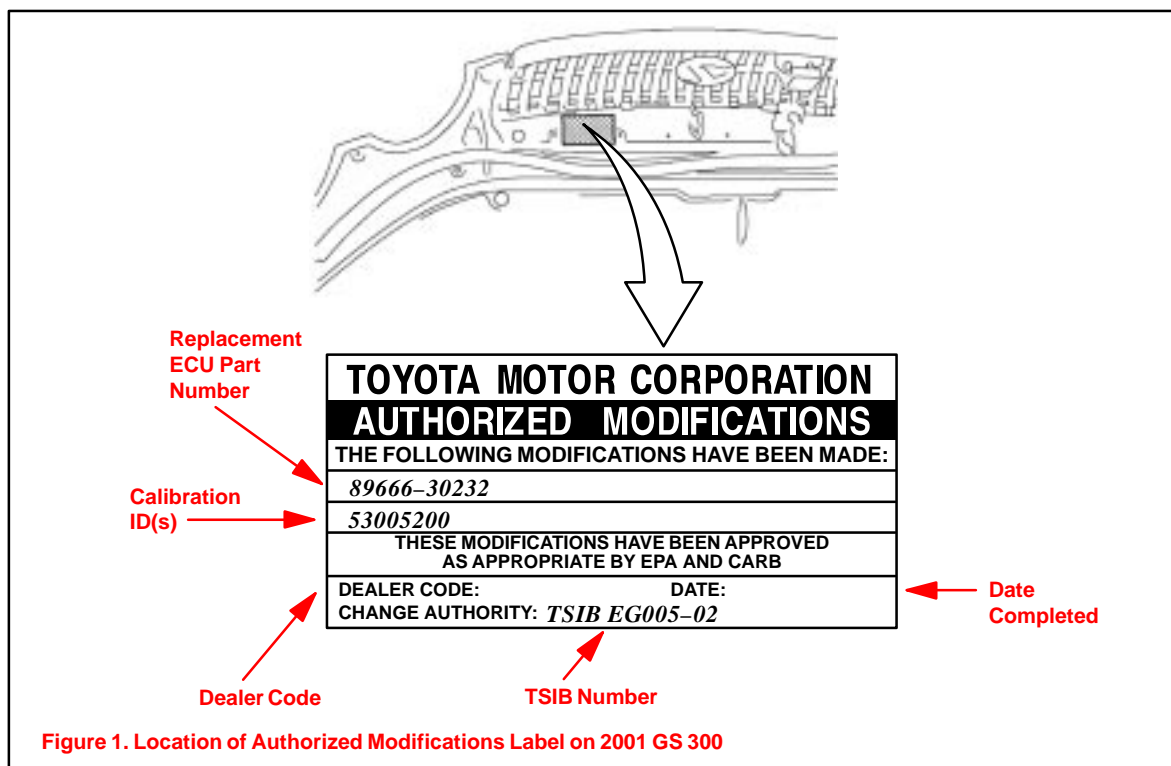

Figure 1. Location of Authorized Modifications Label on 2001 GS 300
1. Check for the Authorized Modifications Label affixed to the vehicle in the location shown in Figure 1. Confirm if ECM (PCM) calibration has been updated. If not latest ECM (PCM) calibration – **go to step 2.**
4. Enter the required information on the Authorized Modifications Label and affix it to the vehicle at the location shown in Figure 1 (page 2). The Authorized Modifications Label is available through the MDC, P/N 00451-00001-LBL.